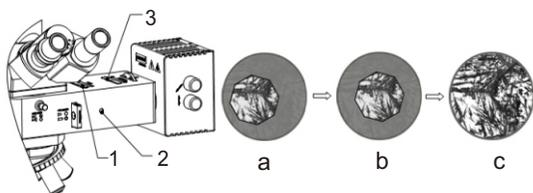

Fig.8
- (1) Turn the 10X plan objective into optical path.
- (2) Open the aperture diaphragm 3, and close the field diaphragm 1, a light spot will be seen in the field of view, as shown in Fig.8-a.
- (3) If the light spot deviates from the center of the field of view, as shown in Fig.8-a, take out the plastic dustproof caps 2 and adjust the centering adjustment screw with two inner hexangular wrenchs to make the field diaphragm center superposition with the field of view center , as shown Fig.8-b, then cover the adjusting hole again.
- (4) Open the field diaphragm, so that the observed specimen image fills field, as shown in Fig.8-c.